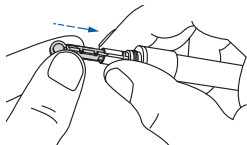

Figure 20
**STEP 2:** Insert a Sterile Lancet into the lancet holder of the lancing device and push down firmly until it is fully seated. Do not twist the lancet. *See Figure 20.*